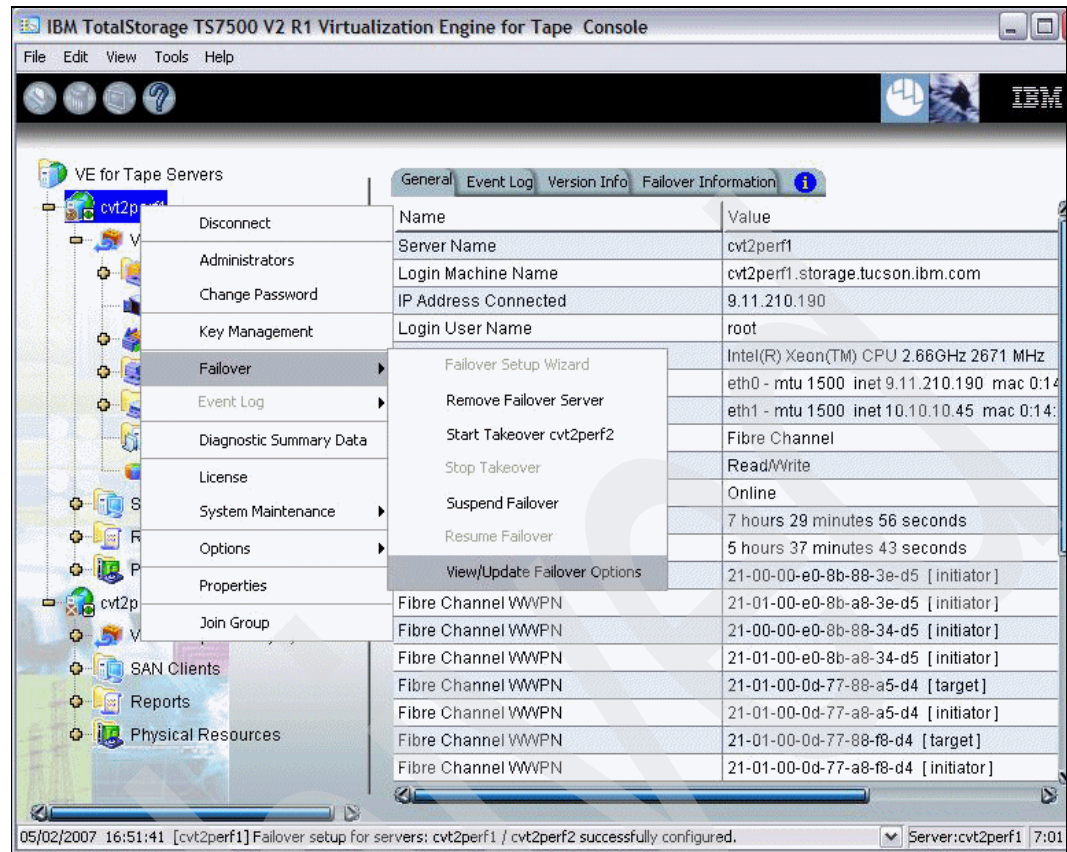

Figure 7-7 Reviewing the failover settings
8. After a successful execution of the failover wizard, to view the failover configuration information select the TS7530 Server icon → **Failover** → **View/Update Failover Options**, as shown in Figure 7-7 on page 259.